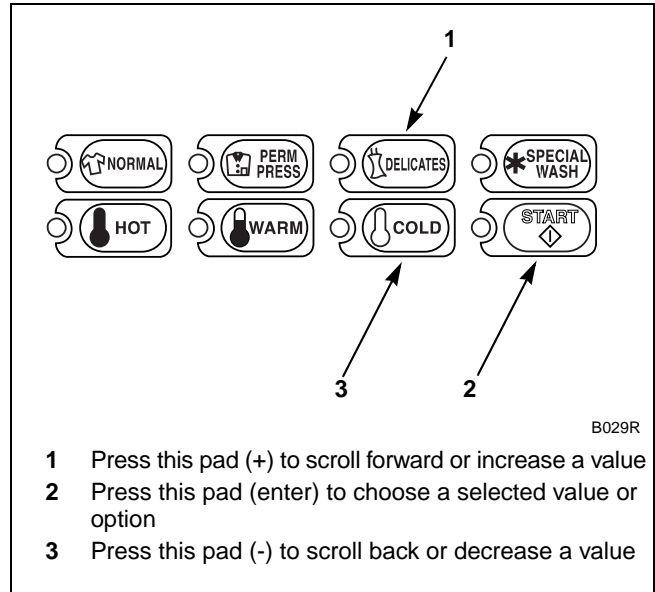

Figure 182
5. Press the DELICATES (+) or the COLD (-) keypad to increase or decrease the current output value displayed in the VFD to the desired output value. Refer to *Figure 182*.